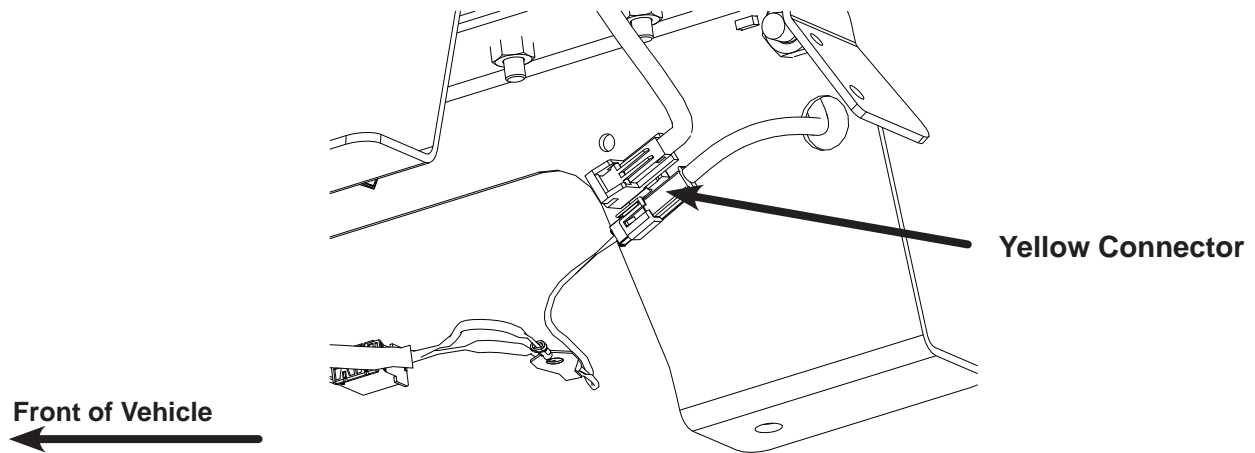

Fig. 7
9. Check for seat side airbag, if equipped use the following step (10) to disconnect. If not equipped with a side airbag, proceed to step (11)
10. Disconnect the yellow airbag connector accessible through top of fixed riser See Fig. 7